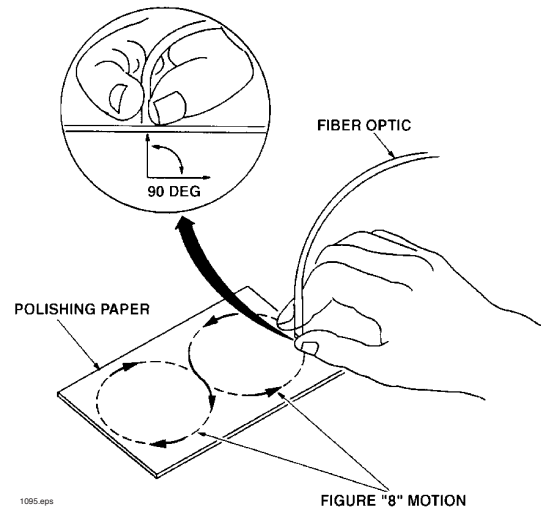

Figure 37. Pattern and orientation of the optical fiber during polishing.
- Place the 600-grit paper on any hard flat surface and wet the paper with a light liquid. Polish the end of the fiber in a "figure 8" pattern while holding the fiber perpendicular to the polishing surface as shown in Figure 37. Supporting the fiber against a flat object during polishing will aid in obtaining a good, flat termination. After 20 strokes, observe the end of the fiber. (A microscope or magnifying glass is helpful, but not required.) If the fiber end is not flat, or has scratches, go back and repeat the polishing procedure. If the end is not flat, it is because some angular rotation (leaning) is occurring when polishing, so be very careful to keep the fiber perpendicular to the polishing film during the complete "figure 8."